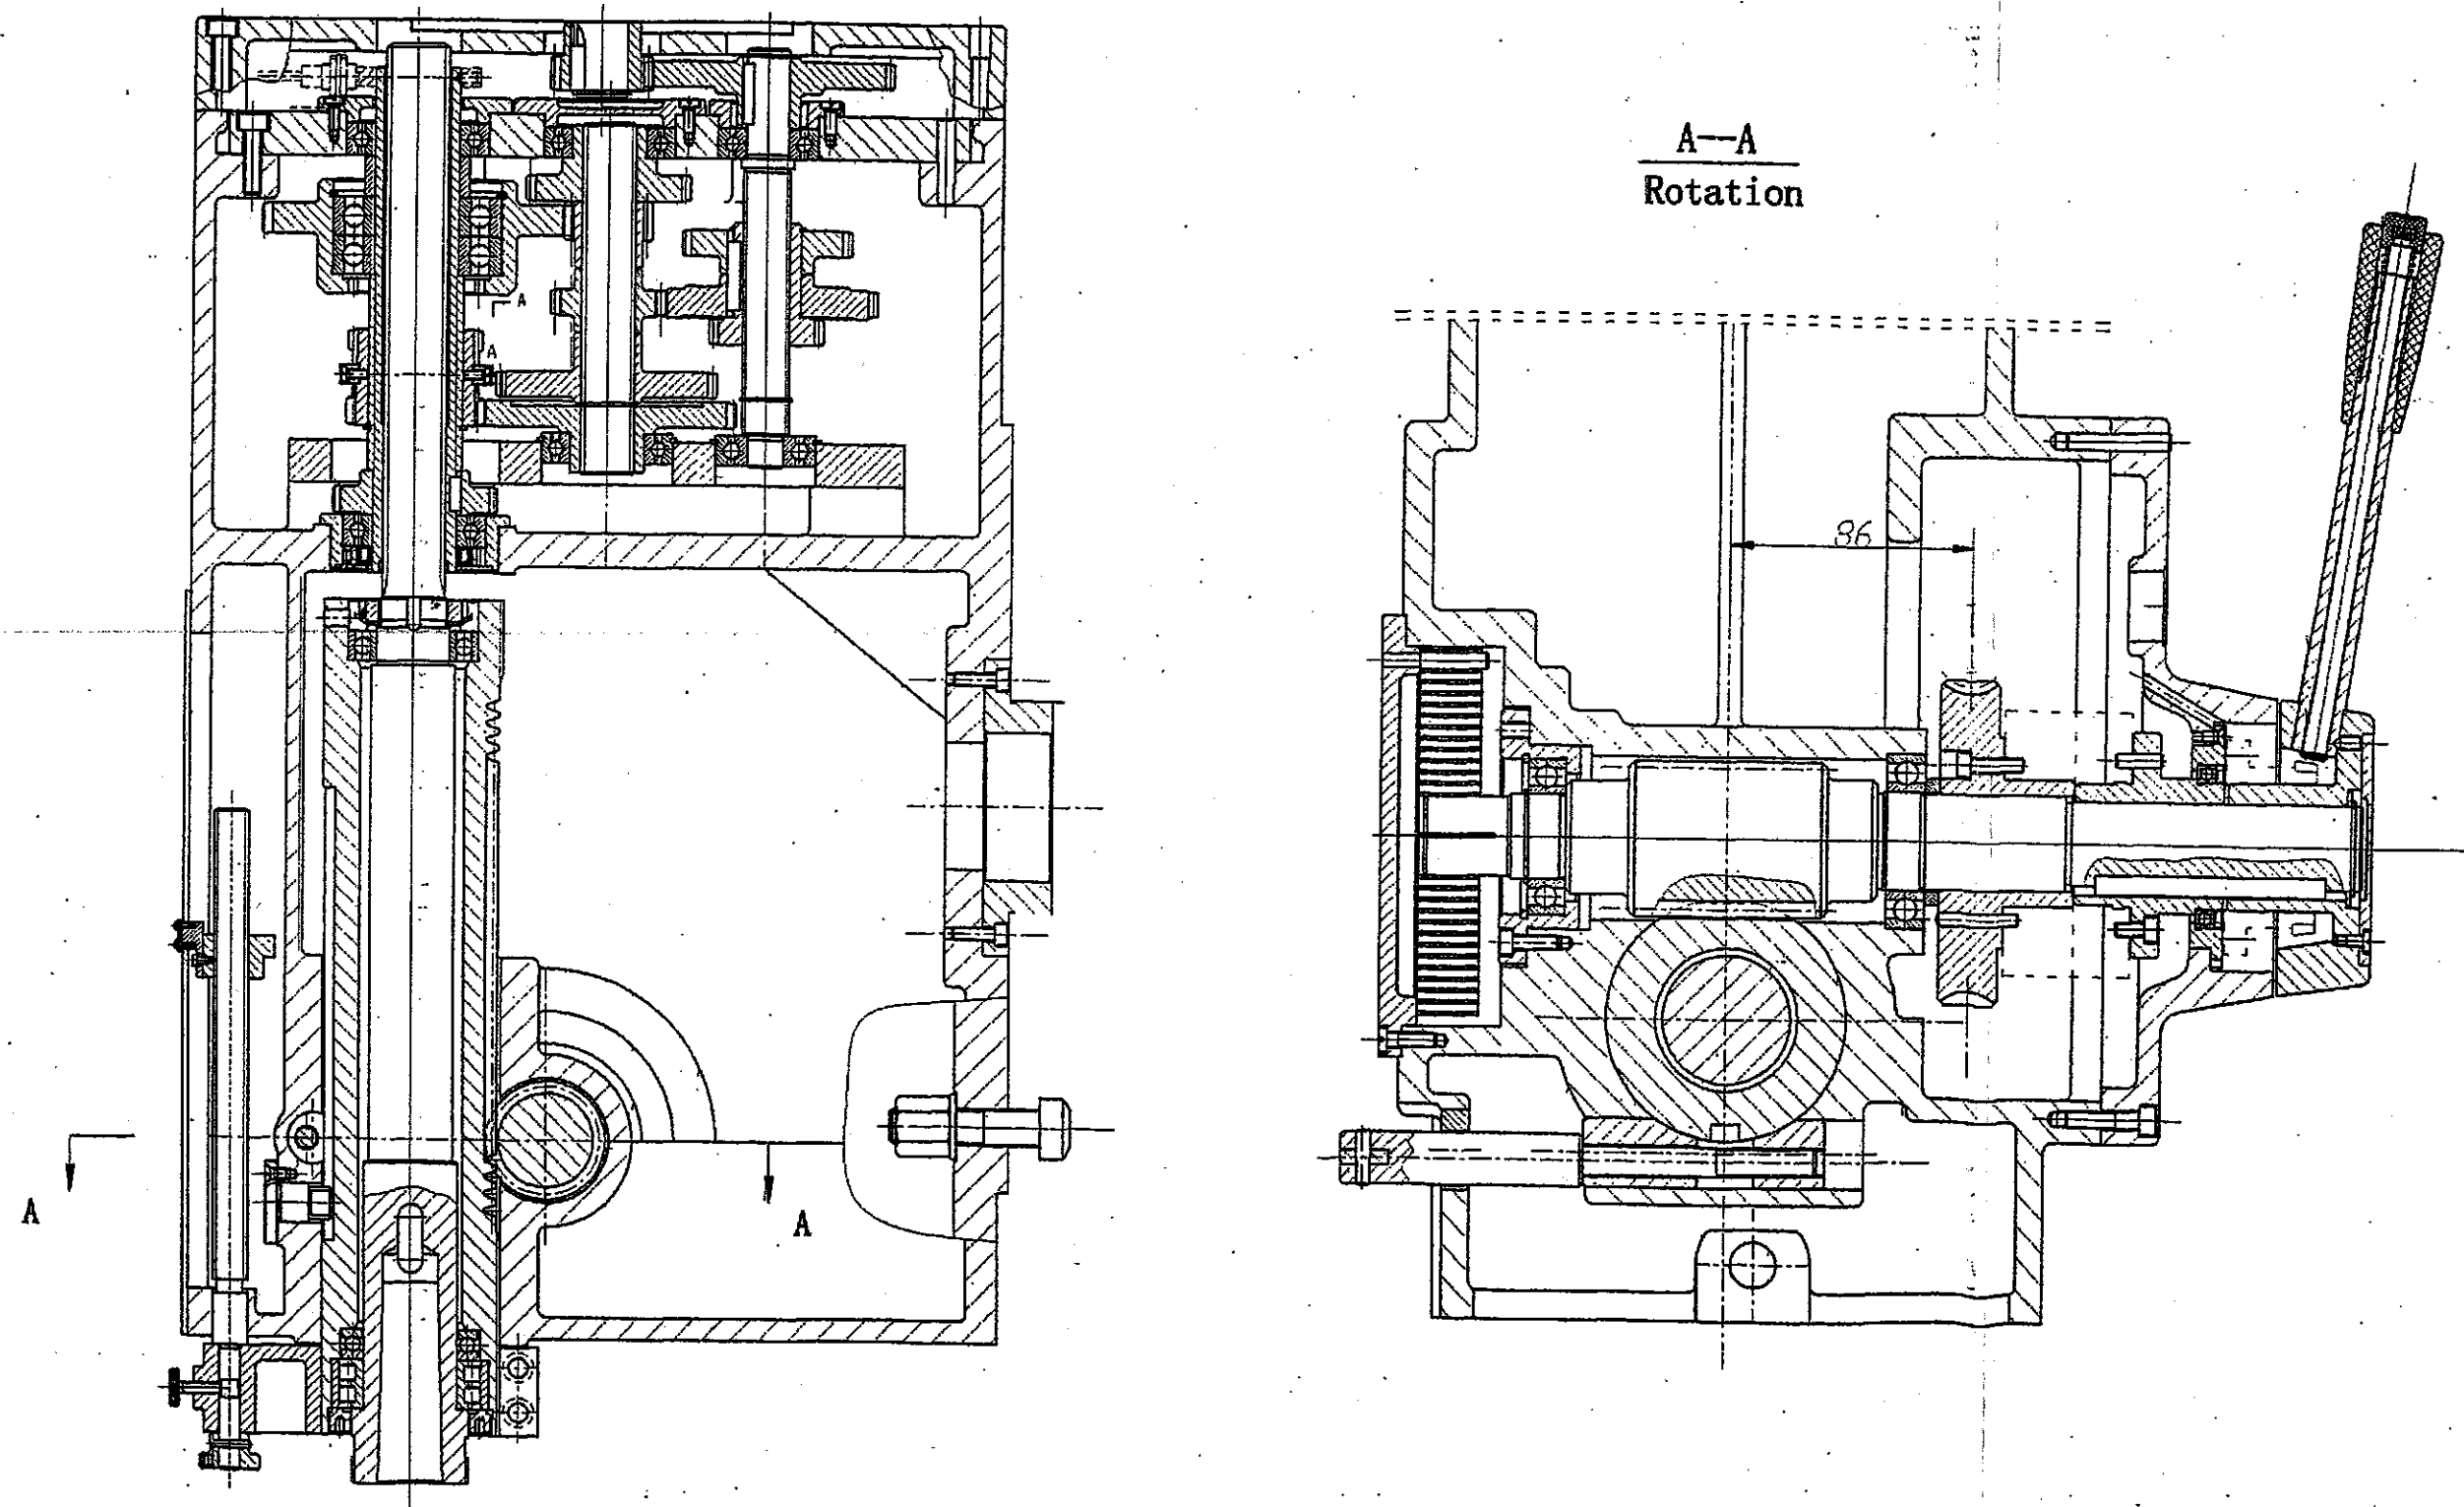

Fig.11 Structure of spindle Box and Gear Box
11.2 Structure of spindle box and gear box (Fig 11)